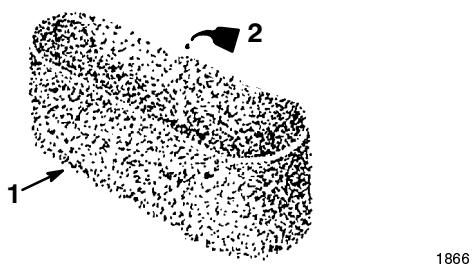

Figure 26
C. Put one or two ounces of oil on the element (Fig. 26). Squeeze the element to distribute the oil.